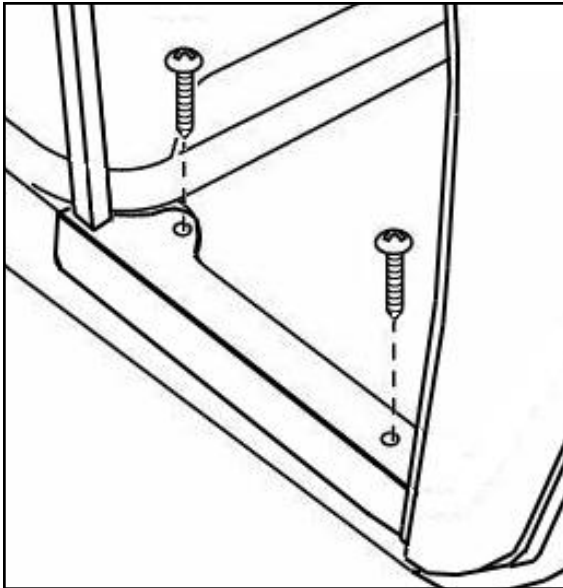

Figure 7: Fasten Floorboard
2.3. Insert the two 1/4" x 1 1/2" long Phillips Head sheetmetal screws through the floorboards. **Do not over tighten.** (Figure 7).